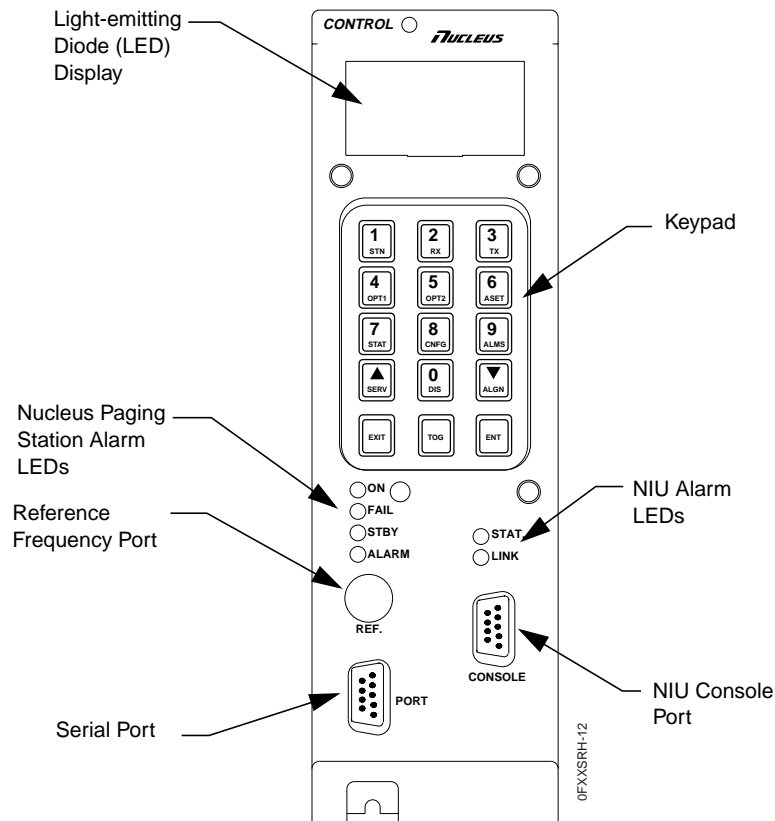

Figure C-3: SCM Front Panel Showing Internal NIU LEDs and Console Port
The SCM front panel is part of the SCM. The internal NIU rests in a slot to the right of the Station Control Board. To support the internal NIU, the SCM front panel provides a serial port and two light-emitting diodes (LEDs) (see Figure C-3 and Table C-1). The console port provides a connection for a personal computer (PC) or PC compatible interface.